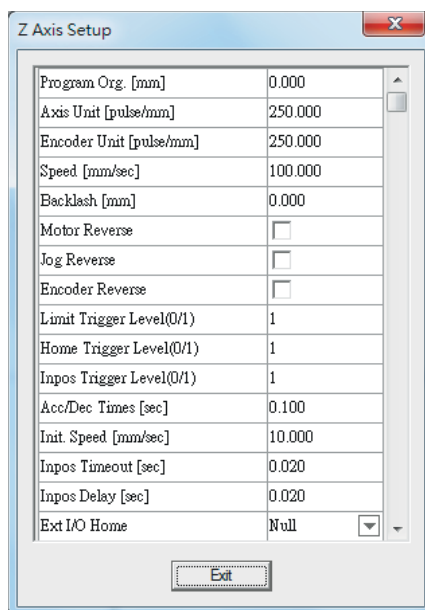

Fig. 1.7.34
6. Click “SETUP...” and do more detail settings, see Fig.1.7.34.